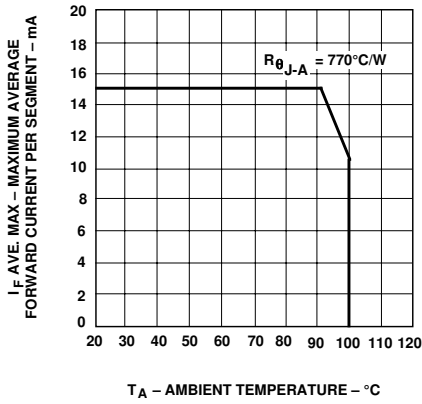

Figure 1. Maximum allowable average or dc current vs. ambient temperature.
5. Derate above 91°C at 0.53 mA/ °C (see Figure 1).